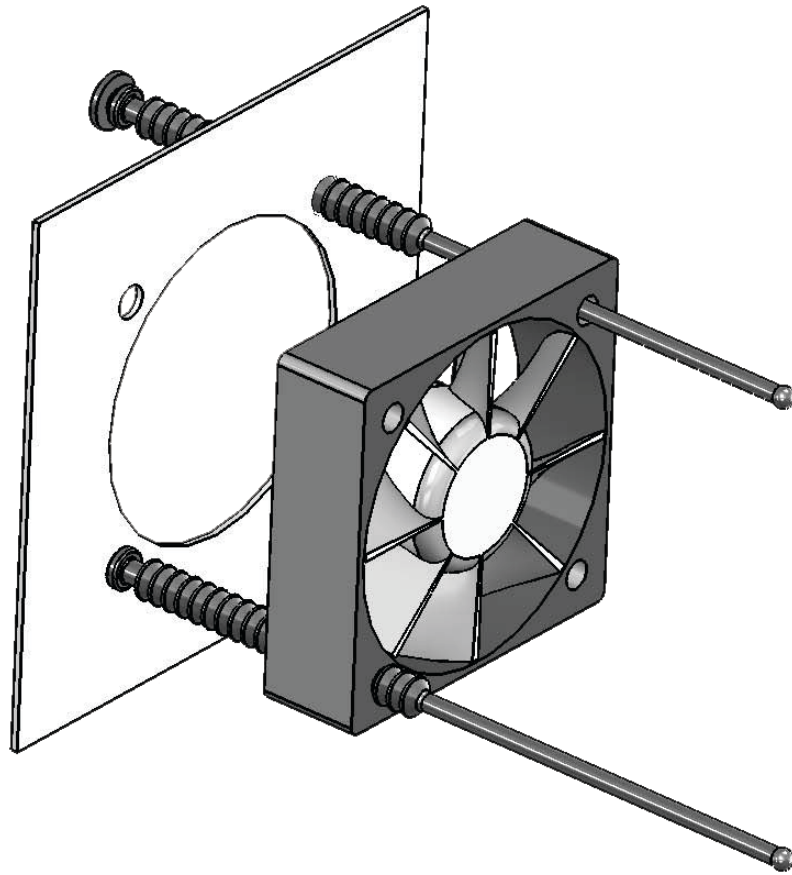

Figure 6-21. Fan Assembly Replacement
3. Cut and remove the silicone rubber fasteners holding the Fan Assembly to the metal pan. Refer to Figure 6-20 and Figure 6-21.
6. Use new silicone rubber fasteners (supplied with the replacement fan assembly). Pull the fasteners through the metal pan and the fan as shown in Figure 6-21. Trim the fasteners after ensuring that the fan is firmly attached to the bracket.